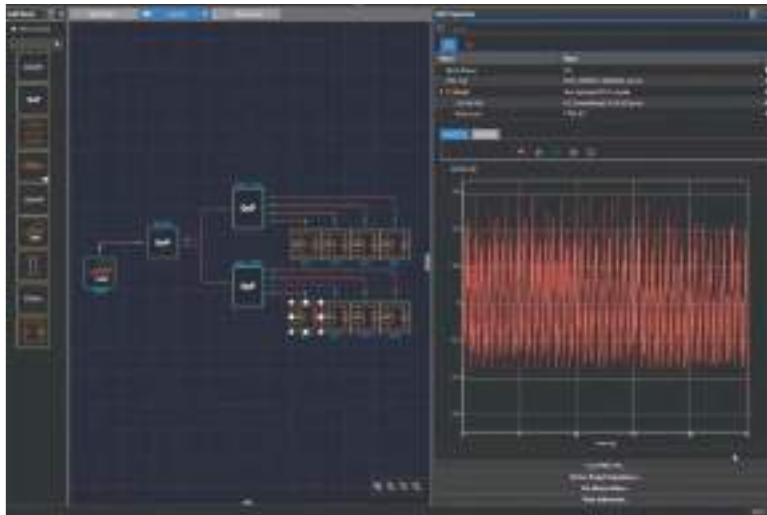

Figure 26: PWL simulation
- ▶ In this instance the PWL that is being simulated can be viewed, as shown in Figure 26. Various options are available in the Edit Properties window.